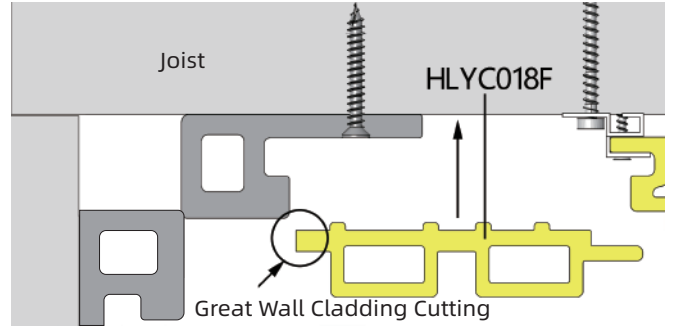

Fig23-6
4. Install the final wall cladding , cut the wall cladding according to the site to determine the size and then install it. As shown in Figures 23-6 and 23-7: